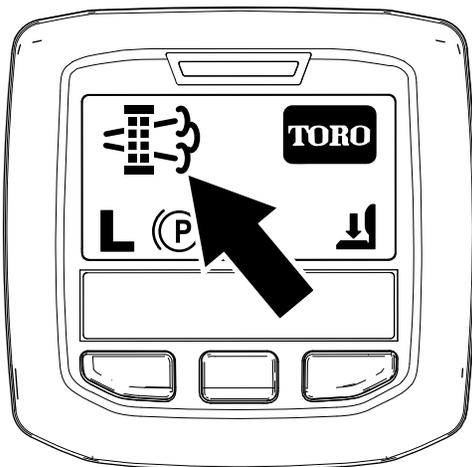

Figure 70
- When the engine computer requests either a parked regeneration or a recovery regeneration, the regeneration request icon (Figure 70) displays in the InfoCenter.